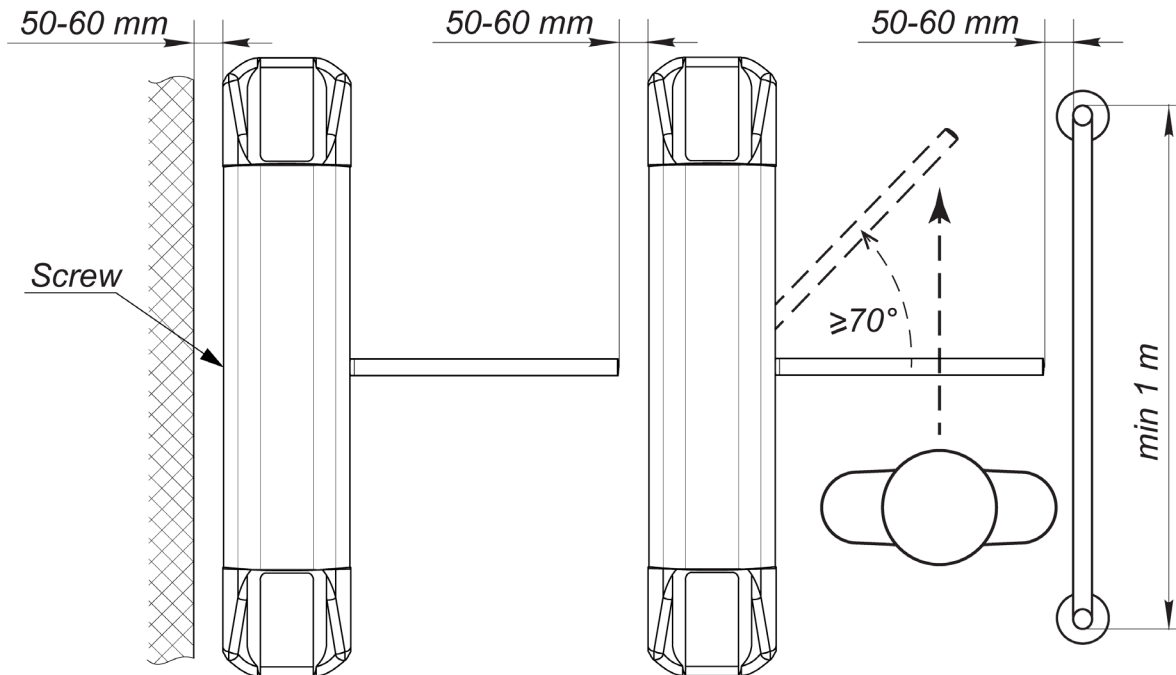

Figure 11. Recommendations for the passage zone organization
2. Insert an SW2.5 Allen key from the delivery set into the hole in the rear part of the turnstile housing and use it to unscrew the set screw (4), which fixes the top cover (see Fig. 11).
When installing the turnstile, it is necessary to leave a gap of at least 50 mm between the turnstile's rear side and the wall to ensure access to the set screw (4) that fixes the top cover (see Figure 11).
When passing through the turnstile, in case the turnstile is operated by the ACS controller, it is necessary to turn the barrier arms at least 70° to register a passage event. To ensure such an angle of rotation, please follow the recommendations given in Fig. 11 when organizing the passage zone.